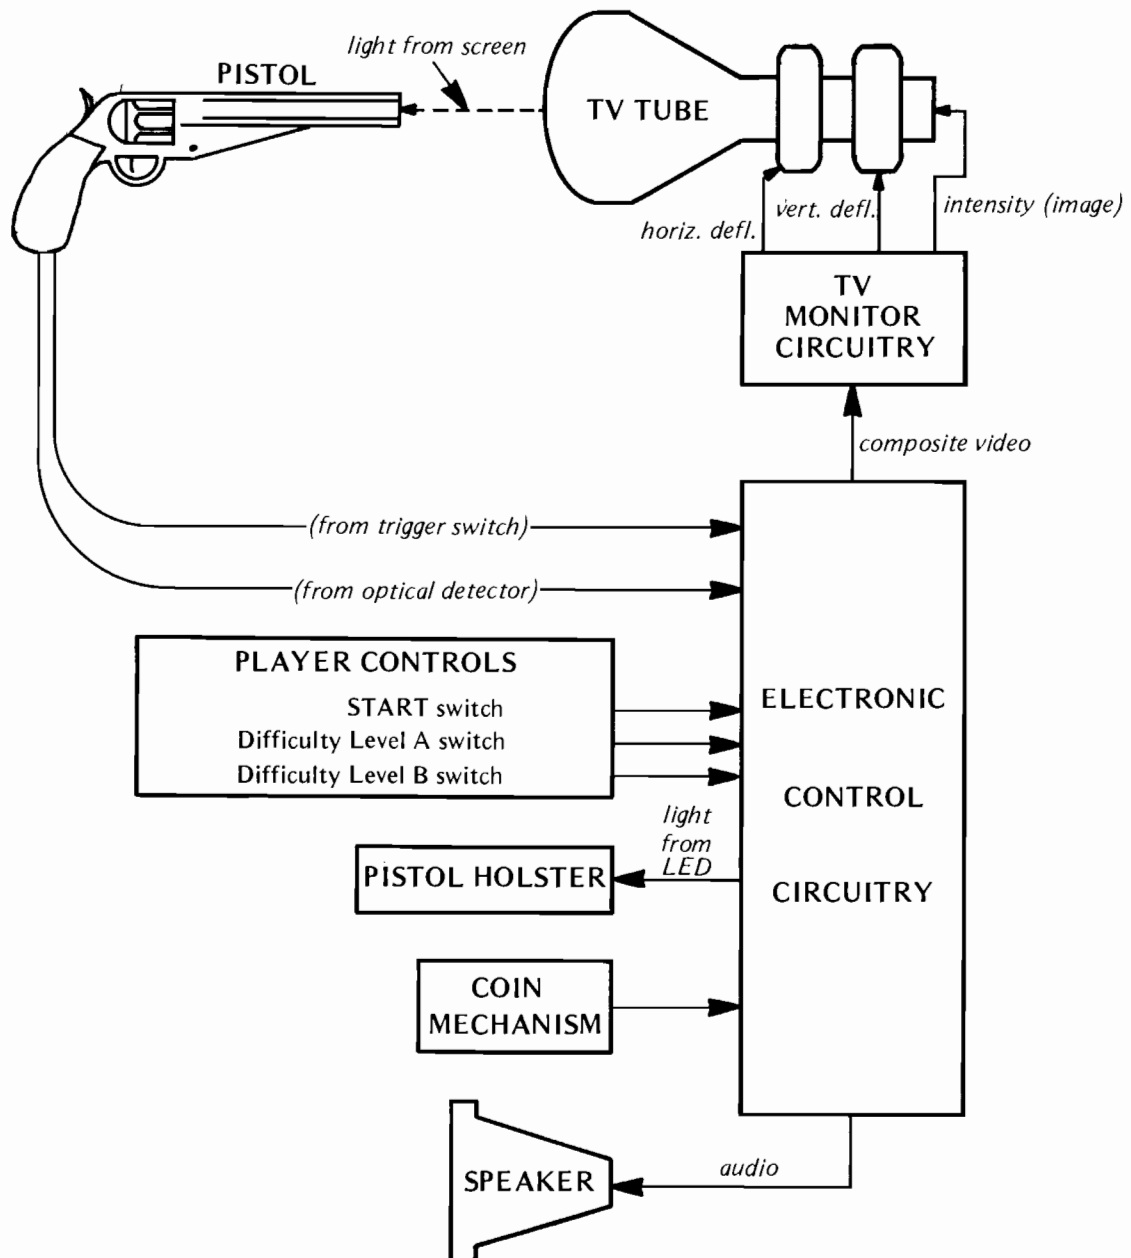

Figure 3-1 Functional Block Diagram of Outlaw Game
The simplified block diagram in Figure 3-1 shows the major functional parts of the Outlaw game and how they are interconnected. In the muzzle end of the pistol contains a narrow-beam-width optical lens that focuses light onto an optical detector circuit located inside the pistol. This optical detector responds to light coming either from the TV screen or from a light-emitting diode (LED) mounted inside the pistol's holster receptacle on the front panel, but does not respond to the surrounding room lighting. The optical detector's output signal connects to the main electronic control circuitry via the pistol cable.
**3.2.2 TV MONITOR:** The TV Monitor is a self-contained transistorized television monitor supplied to Atari by Ball Brothers Research Corp. Because the "composite video" signal supplied to the monitor by the game's electronic control circuitry differs in certain important respects from the signal derived from commercial TV broadcasts, the monitor does not produce any sound and the picture appearing on its screen is unlike that of a home TV set. The game's sound is produced by a speaker mounted separately from the monitor and driven directly by the game's electronic control circuitry. (The separate "audio" and "composite video" connections shown in Figure 3-1 point out this difference.)